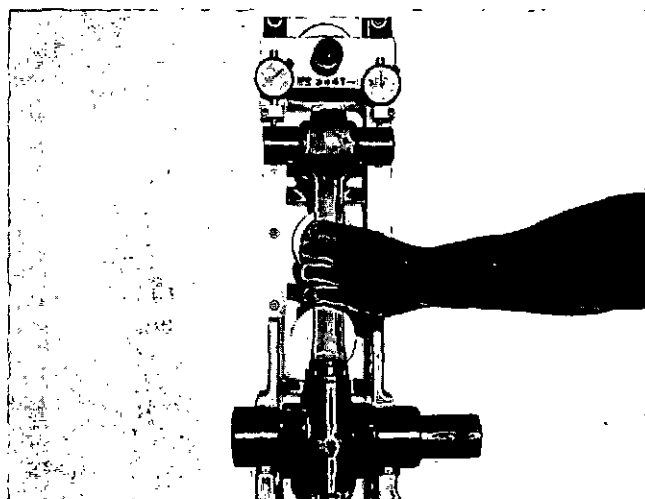

Fig. 1-59 (V40138). Check The Alignment Of The Bores.
2. Put the connecting rod in the fixture, Fig. 1-59. Take readings for the length (compared to the length of the connecting rod used to calibrate the fixture) and for the alignment of the bores (the difference in the readings from one indicator to the other).